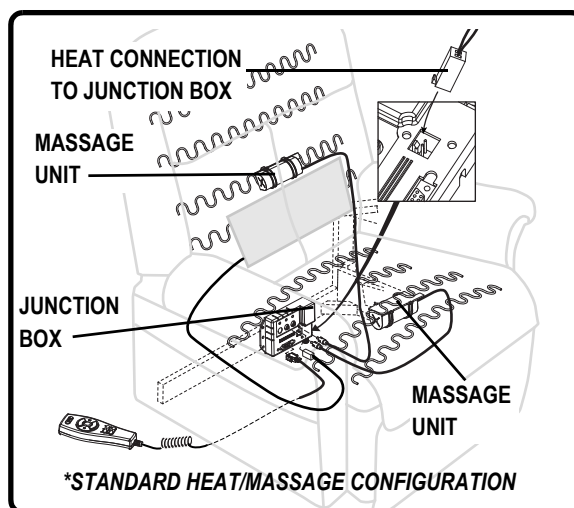

Figure 4.3 Harness Connections
4. Connect the hand control harness to the lift chair and heat/massage harnesses (if equipped) to the lift chair (**Fig 4.3**).